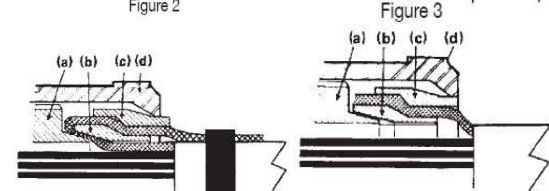

Figure 3
4. Install the braid as shown on figures 3 and 4: